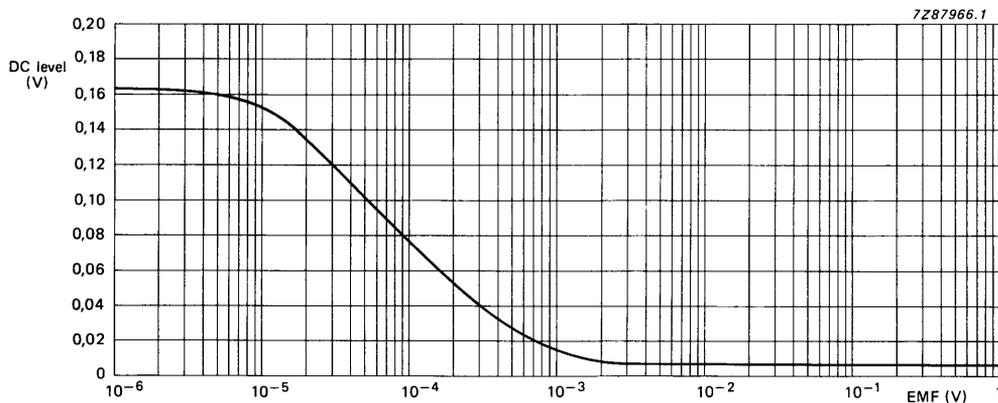

Fig. 3 Field strength voltage ( $V_{g.3}$ ) at  $R_{source} = 1 \text{ k}\Omega$ ;  $f = 96,75 \text{ MHz}$ ;  $V_p = 3 \text{ V}$ .
Fig. 3 A.F. output voltage ( $V_o$ ) and total harmonic distortion (THD) as a function of the e.m.f. input voltage (EMF) with a source impedance ( $R_S$ ) of  $75 \Omega$ : (1) muting system enabled; (2) muting system disabled.